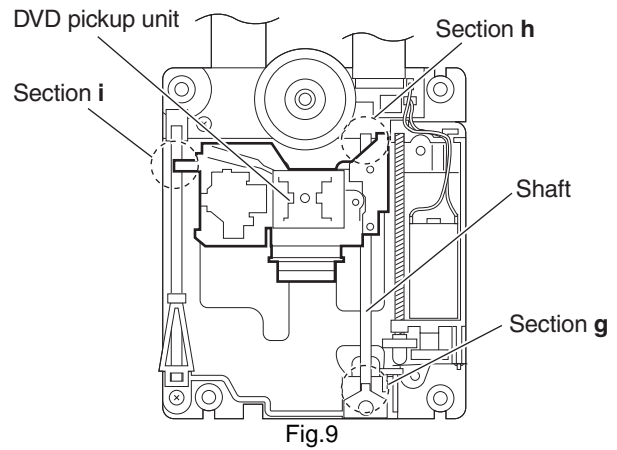

Fig.9
- (2) Remove the shaft from the section **g** and then remove the shaft from the section **h**. (See Fig.9.)
- (3) Disengage the section **i** of the DVD pickup unit and then remove the DVD pickup unit with the shaft. (See Fig.9.)